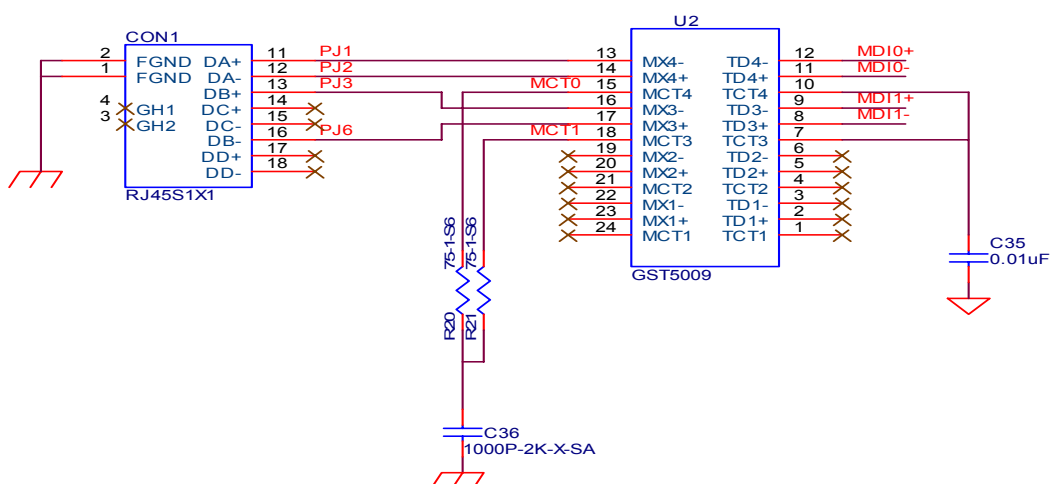

Figure 14. Separate Transformer
- When using a separate transformer, the center-tap MUST be aggregated (pins 10, 7; Figure 14) (C35 Value: $0.01\mu\text{F}$ ~ $0.4\mu\text{F}$)